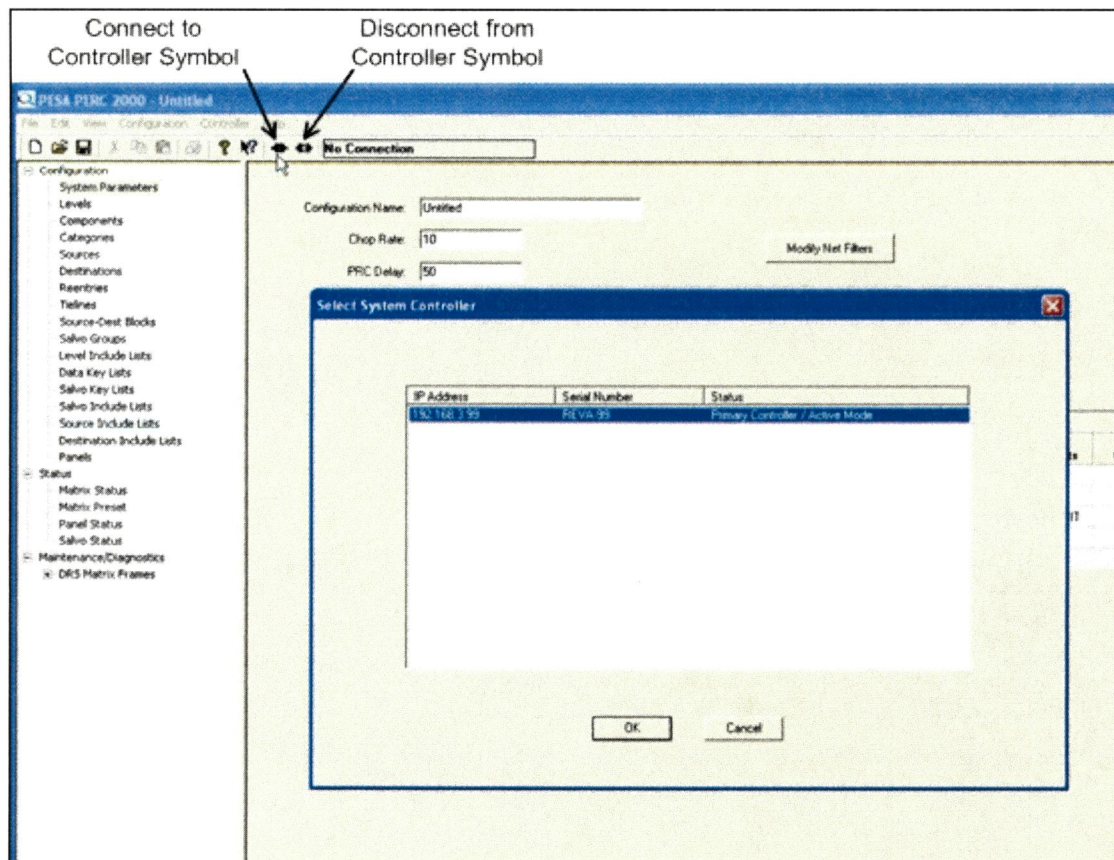

Figure 4. System Controller Selection
- ☐ 9. Click on the "Connect to Controller Symbol," Figure 4, to bring up a box with all P2K controllers listed by IP address. In most applications there will only be one controller listed. Select the P2K you wish to update from the list, by IP address, and click to activate the connection between the GUI and the controller. Once activated and communication is established, the IP address of the P2K appears in the box to the right of the connection symbols and the box is highlighted green to indicate the connection is functional.